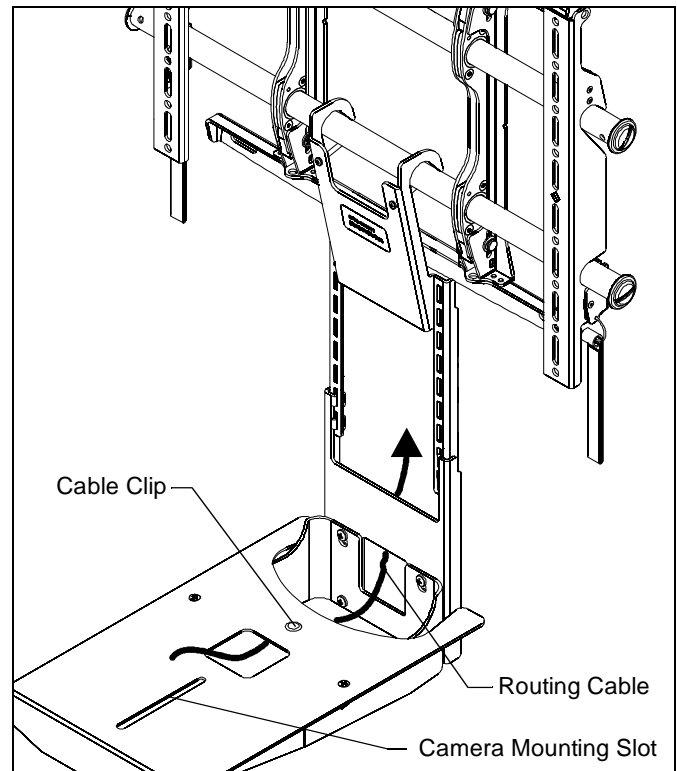

Figure 6
**NOTE:** If camera has a bottom mounting screw, attach it through the mounting slot in the shelf. (See Figure 6)
2. Route cable from camera. (See Figure 6)
**NOTE:** Cable may be routed using the cable clip on the underside of the shelf. Secure the cable at the cable clip with a wire tie (not included). (See Figure 6)